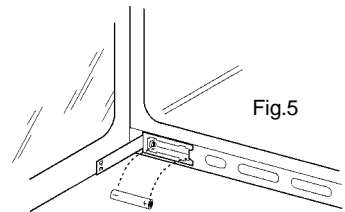

Fig.5
3. Fit the new battery ensuring (+) terminal is next to the (+) sign on the battery. See Fig.5.